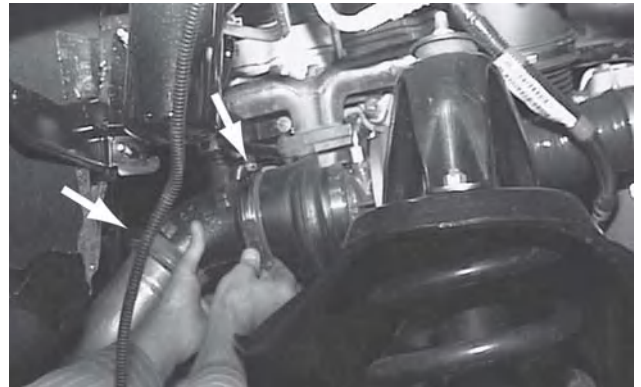

Fig. 7b
- Loosen (11 mm socket) the "V" clamp that attaches the exhaust pipe to the exit side of the elbow. Slide the "V" clamp over the exhaust pipe away from the elbow. A new clamp is provided in the kit. (See figure 7b)
- Loosen (10 mm socket) and remove the "V" clamp that attaches the elbow to the exhaust side of the turbocharger. A new clamp is provided in the kit. (See figure 7b)